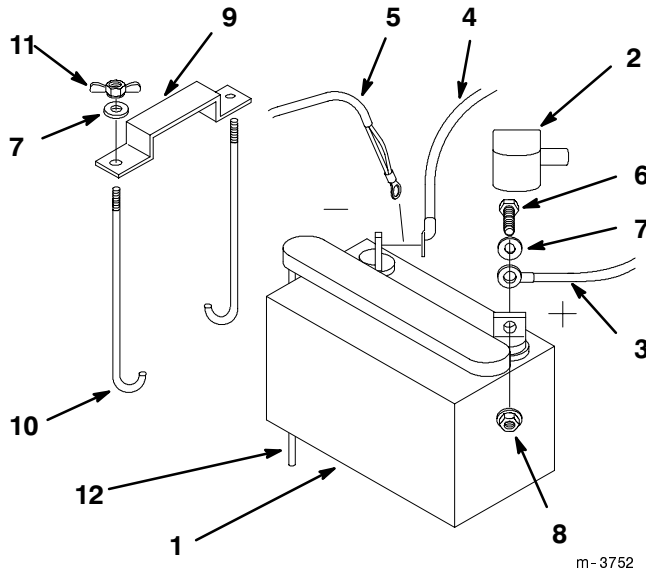

Figure 8
1. Position battery in tray with terminal posts toward the engine (Fig. 8).
- Secure cables with 2 bolts (1/4 x 3/4 in. (19 mm)) washers (1/4 in.) and locknuts (1/4 in.) (Fig. 8).
- Secure battery with J-bolts, hold down clamp and 2 washers (1/4 in.) and 2 wing nuts (1/4 in.) (Fig. 8).